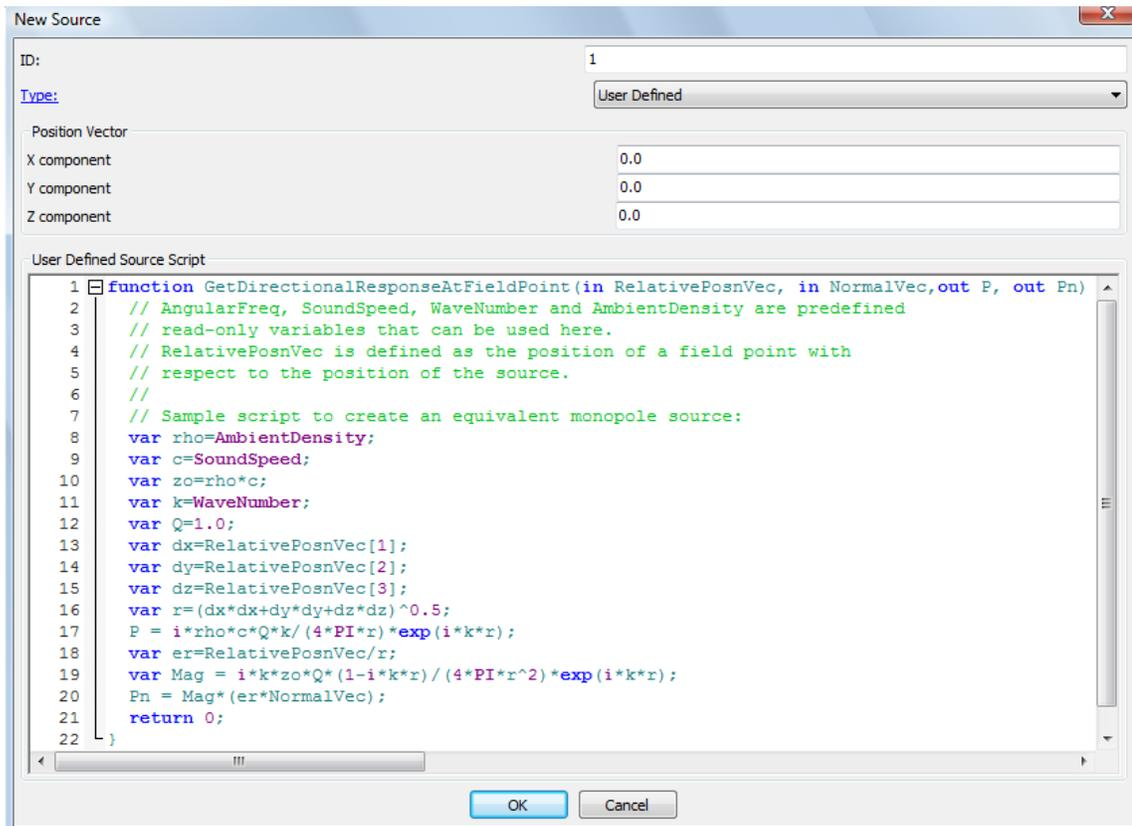

Figure 4.48 User Defined Acoustic Source
*Coustyx* offers users the choice to define their own source. The *User Defined* source is defined by the location of the source through **Position Vector** and the function `GetDirectionalResponseAtFieldPoint`. The relative position of a field point with respect to the source position and the field normal are input to the function through the arguments: `RelativePosnVec` and `NormalVec`. The pressure and the normal derivative of pressure at the field point are output through the arguments: `P` and `Pn` (Figure 4.48). Note that a valid user defined acoustic source should have a pressure field that satisfies the Helmholtz equation exactly. **It is the users responsibility to ensure that the sources they define are indeed solutions of the Helmholtz equation.**